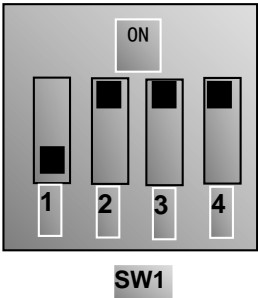

Figure 8-5
- vi. There is a red four-digit coding switch SW1 near the control terminal block of 18.5kw and above 18.5 kW inverter, as shown in Figure 8-5. The function of coding switch is to select the input range (0~5V/0~10V/0~20mA) of analog input terminal AI1 and AI2. In actual application, select the analog input channel through F203. AI1 channel default value is 0~10V, AI2 channel default value is 0~20mA. Another switches states and mode of control speed are as table 8-3.